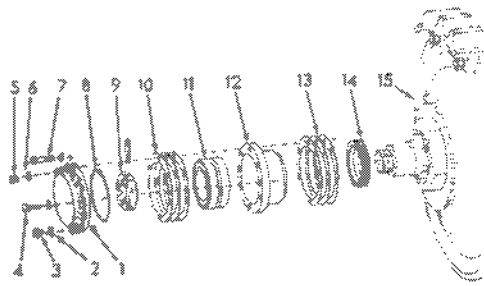

FIG. 85 SPROCKET SHAFT OUTBOARD T-75929
Remove sprocket shaft outboard bearing cage cap; remove outboard bearing retainer, Fig. 85 (1), and tie shims (10) to retainer. Remove roll pin, and loosen bearing retaining nut (9) five or six turns.